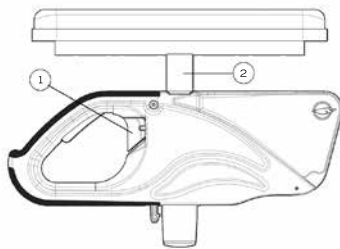

Fig. 15
- Flip lever (1) left or right to unlock the armrest (Fig. 15).
- Adjust the structure (2) at the desired height.